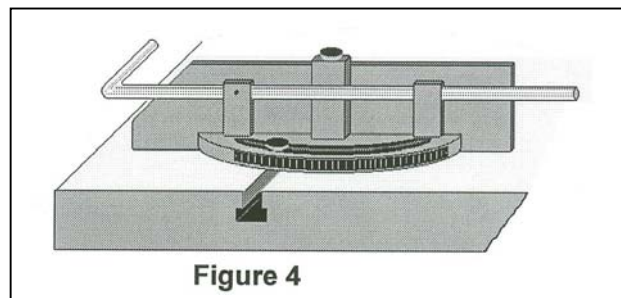

Figure 4
**PROTRACTOR HEAD Standard on 24/40 models. Optional for 16 models (figure 4)**